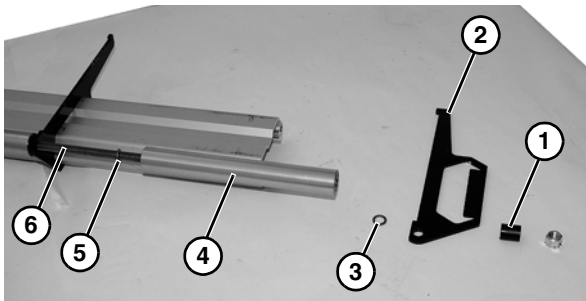

Figure 54
22. Remove spacer (Figure 54, item 1), plate (Figure 54, item 2), washer (Figure 54, item 3), roller (Figure 54, item 4), second washer (Figure 54, item 5) from axle shaft (Figure 54, item 6).